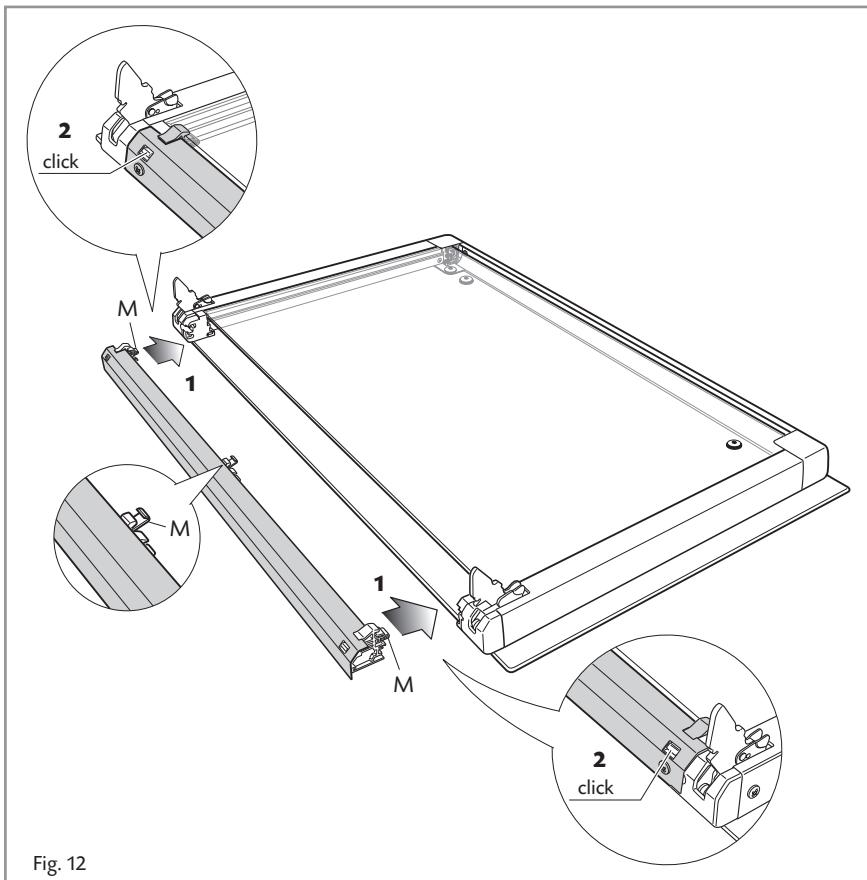

Fig. 12
1. Position the glass retainer, as shown in the figure 12. It should sit on the bottom edge of the outer glass. Check that the clamps **M** are not deformed or damaged.